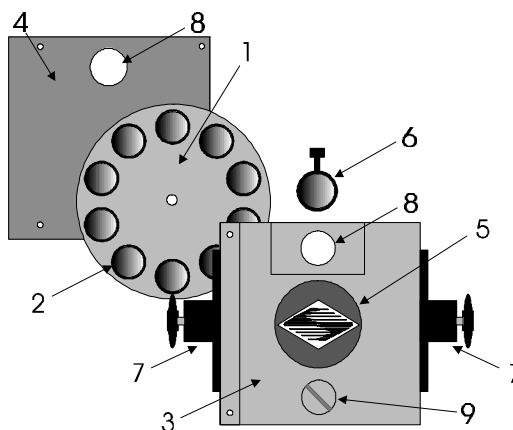
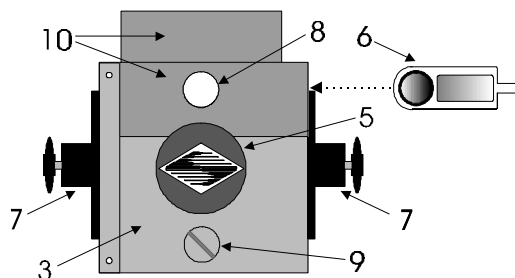

Figure 6. Lambda 10-2 Filter Wheel (without shutter)
Figure 7. Lambda 10-2 filter wheel housing (with shutter)
The basic components of the filter wheel mechanical assembly are shown below in figures 6 & 7. The only components that are to be removed by the user are the drop-in or slide in filter holders and the plug in the loading port. At no time should the user remove the cover plate from the wheel housing.
6. drop-in filter holder (fig. 5) or slide-in filter holder (fig. 6)
Filter Cups and Filter Holders. At each filter position on the filter wheel is a filter cup assembly to hold one 1" filter. The Lambda 10-2 also comes with two removable 1" filter holders that can be placed into the optical pathway to accommodate "fixed" filters, such as neutral density filters. The filter holders will be either a "drop in" style if no shutter is installed (item 6 in fig. 6) or a "slide in" style if a shutter is installed (item 6 in fig. 7).